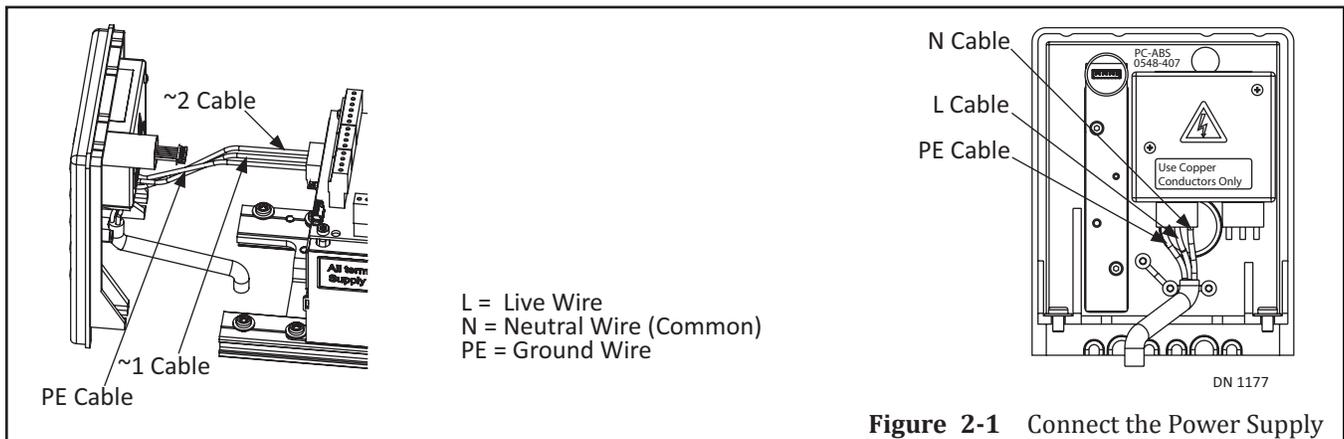

Figure 2-1 Connect the Power Supply
1. Connect the Main Power Supply. Please see Figure 2-1.